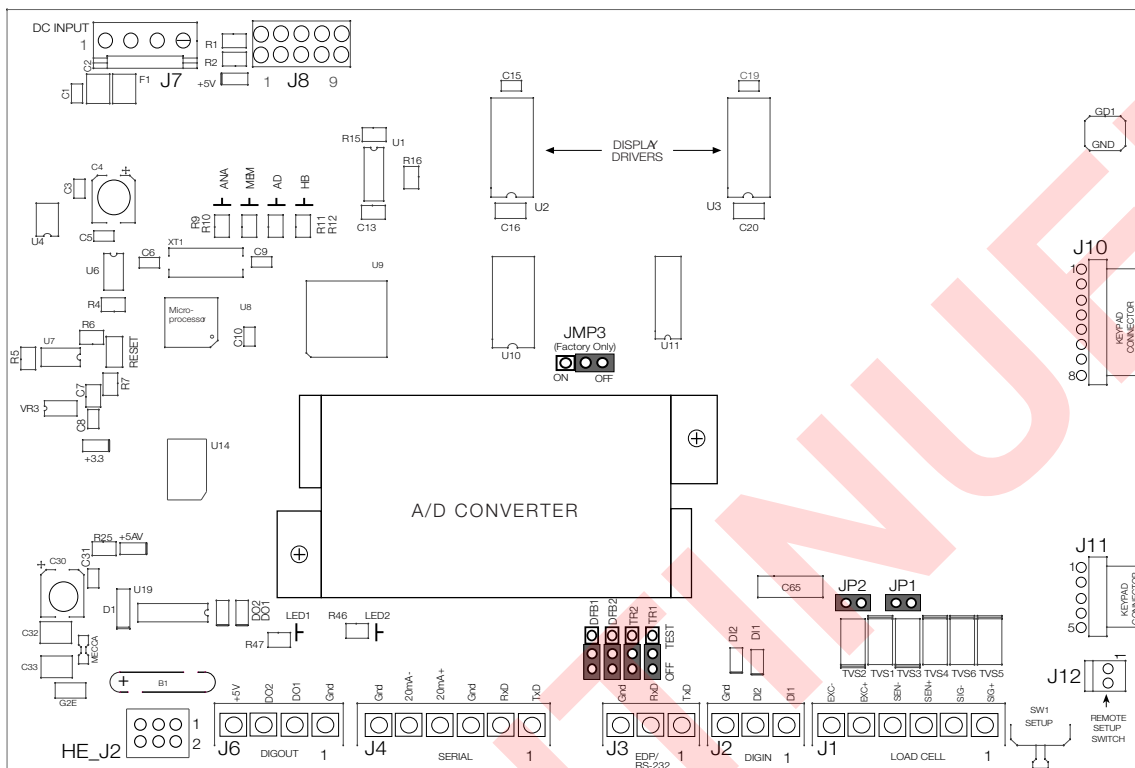

Figure 2-4. Tracer AV CPU Board
5. Unplug connectors J1 (load cell cable), J2 (digital inputs), J3 (EDP), J4 (serial), J6 (digital outputs), and J2 (display). See Figure 2-4 on page 12 for connector locations.